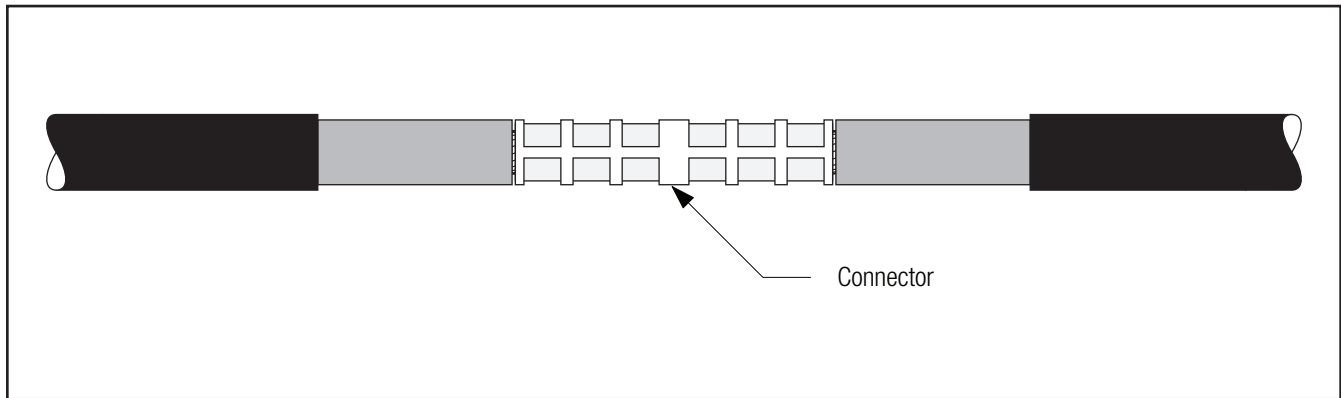

Figure 8
- 3.5 Install connector. See table (on cover) for proper connector dimensions. (For standard 3M™ Connectors, refer to table at the end of this instruction for crimping information). Remove any excess oxidation inhibitor from connector ends if aluminum connector is used. File sharp connector flashing if necessary, taking care to remove all metal filings from splice area (*Figure 8*).